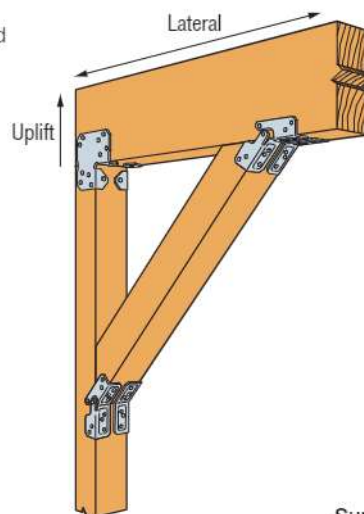
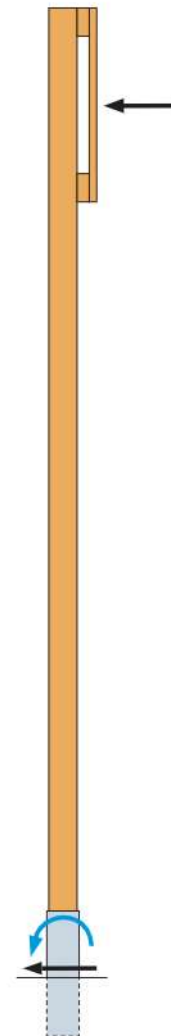

Figure 2 — Typical LCE™ Post Cap Installation with KBS1Z Knee Bracing
Figure 3 — Non-Top-Supported Post with MPBZ™ Moment Post Base
- Except for the MPBZ moment post base, post bases do not provide adequate resistance to prevent members from rotating about the base and are therefore not recommended for non-top-supported installations (such as fences, **patio covers**, **pergolas** or unbraced carports). The top of the post must be restrained from moving horizontally by some other means, e.g., by tying the roof into a supporting structure or by adding knee bracing between the posts and beams. (Figure 2) Alternatively, see the MPBZ on pp. 82–83 for a post base that provides moment resistance for columns or posts. (Figure 3)
- Allowable lateral loads for post caps can only be achieved if one of the members, the post or beam, is supported laterally by other means. (Figure 2) For applications involving lateral load transfer from the beam to the column, the column must be designed to receive the load without rotating about its base (e.g., cantilevered out of the ground, diagonally braced, or connected at the base with a moment-resisting connector like the MPBZ post base).